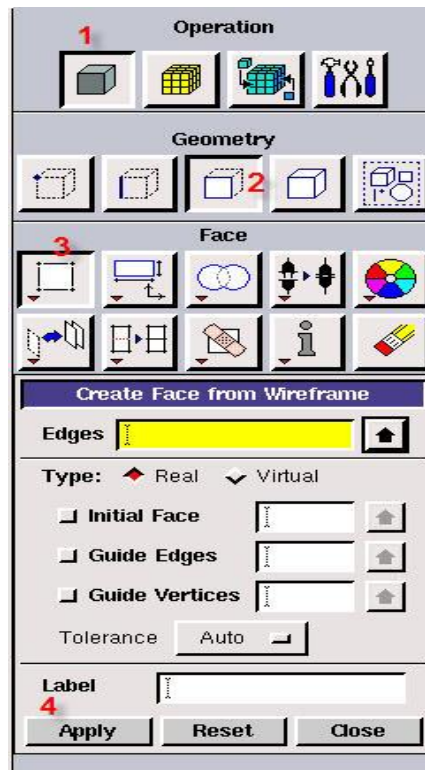

Figure 2.5 Steps to generate simulation domain faces
Follow the steps illustrated in Figure 2.5 to generate simulation domain faces. In the **Operation Toolpad**, select **Geometry Command Button (1)** >> **Face Command Button (2)** >> **Form Face (3)**, then press hot keys “**Shift + mouse left click**” to choose appropriate edges and press **Apply (4)** to form faces of the simulation domain. Outcomes of this step are demonstrated in Figure 2.6 and face **S** is the position where an odour/gas source locates.